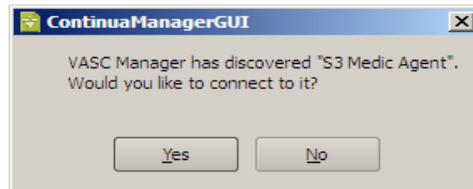

Figure E-6. Continua Manager GUI
4. Click on the **Start Transport** button. S 3 Madic Event connection confirmation pop-up appears as shown in Figure E-6. Click on the **Yes** button to continue.